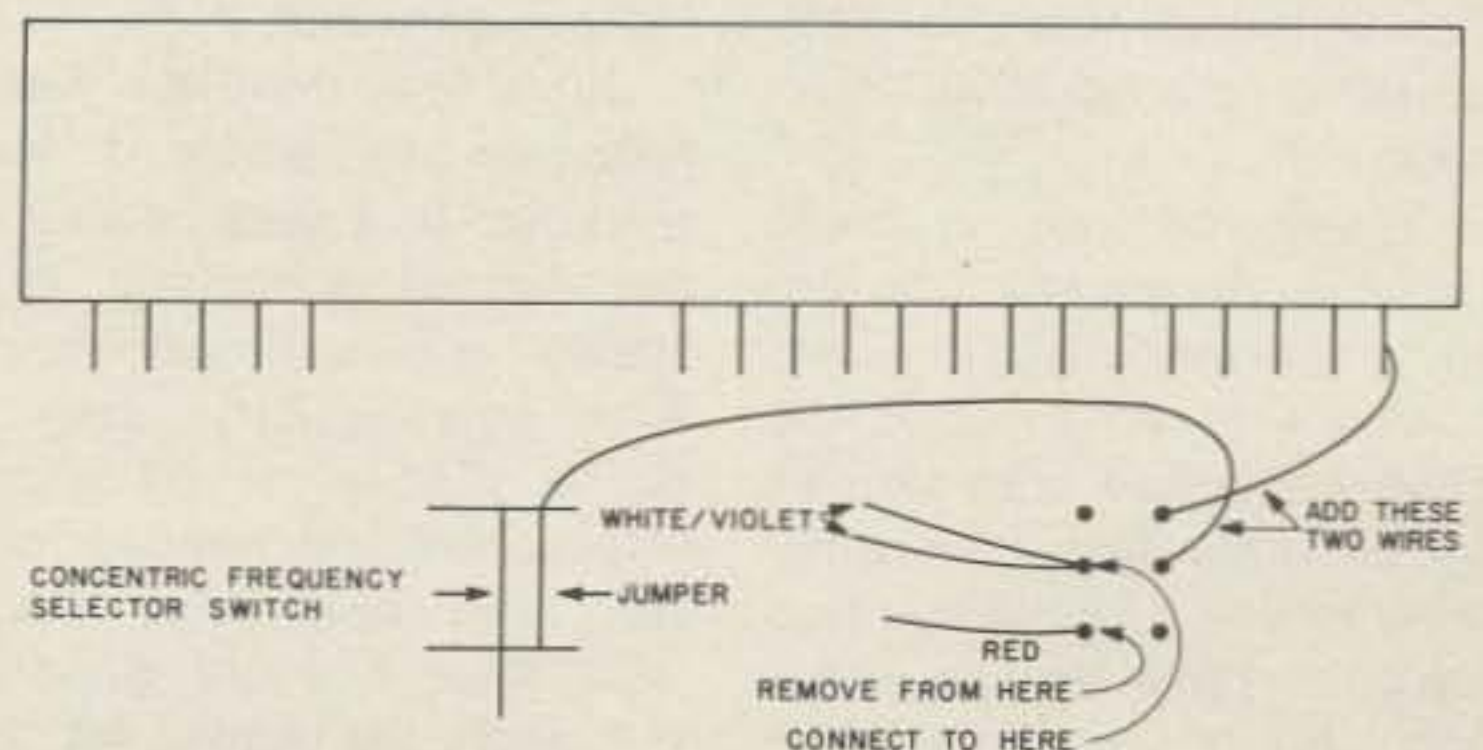

Fig. 1. How simple it is.
7. Solder the other end of this wire to the center terminal of the top bank of the on-off switch (see Fig. 1).